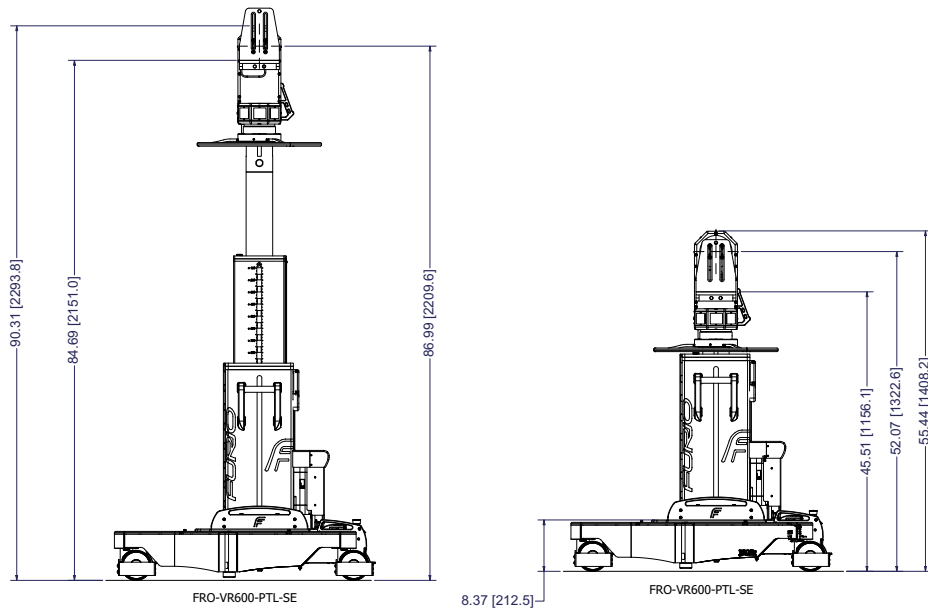

Figure 3 - Dimensions of the BlackBird SE Pedestal with a VR600 Head (side view)
- **Figure 3** - Dimensions of the BlackBird SE Pedestal with a VR600 Head